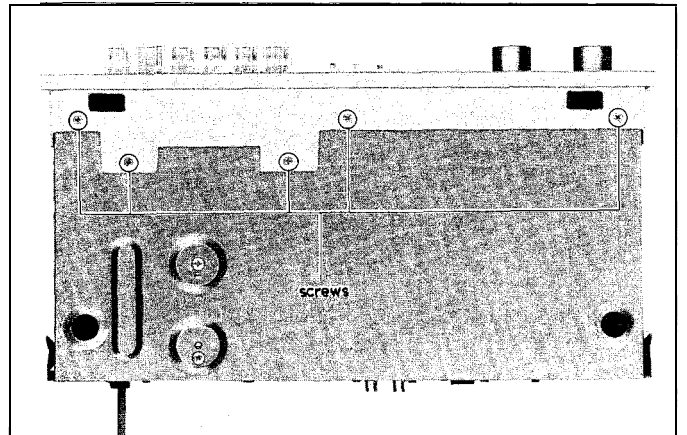

Figure 4-3
2. Turn the unit over, and remove the five (5) screws from its bottom – out of them the two are to retain the mechanism block. (Refer to Figure 4-3.)